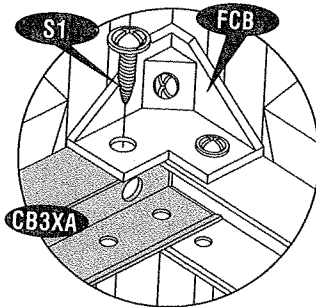

Fig.1
15. Assemble the center bands (CB3XA) with middle joining support (MJ) with (S1) screws. See fig.
16. Stabilize the side panels with center bands (CB3XA) assembly. See fig.1 to 6 and follow the steps.